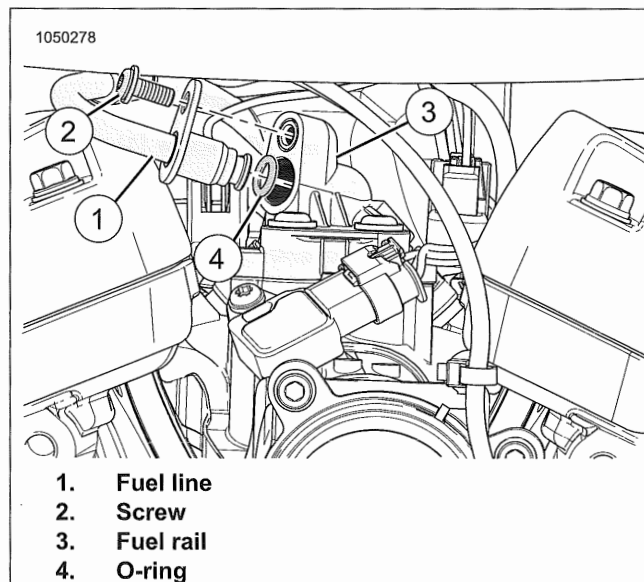
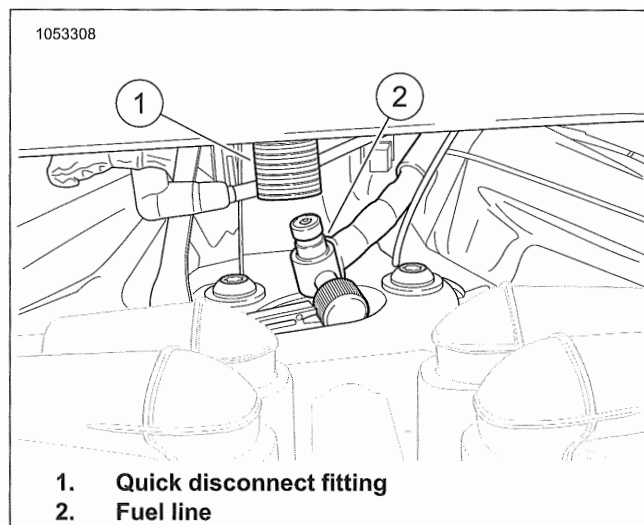

Figure 6-14. Fuel Line to Fuel Rail
Figure 6-15. Fuel Line to Fuel Tank
1. See Figure 6-15 Disconnect fuel line from fuel tank.
- a. Push up on sleeve of quick disconnect fitting (1).
- b. Remove fuel line (2) from quick disconnect fitting.
2. See Figure 6-14 Disconnect fuel line from fuel rail.
- a. Remove screw (2).
- b. Pull fuel line (1) away from fuel rail (3).
- c. Inspect O-ring (4) for damage. replace as necessary.
1. See Figure 6-14. Install fuel line to fuel rail.
- a. Install **new** O-ring (4) to fuel line (1), if removed.
- b. Connect fuel line to fuel rail (3).
- c. Install screw (2). Tighten.
2. See Figure 6-15 Install fuel line to fuel tank.
- a. Press up on sleeve of quick disconnect fitting (1).
- b. Connect fuel line (2) to quick disconnect fitting.